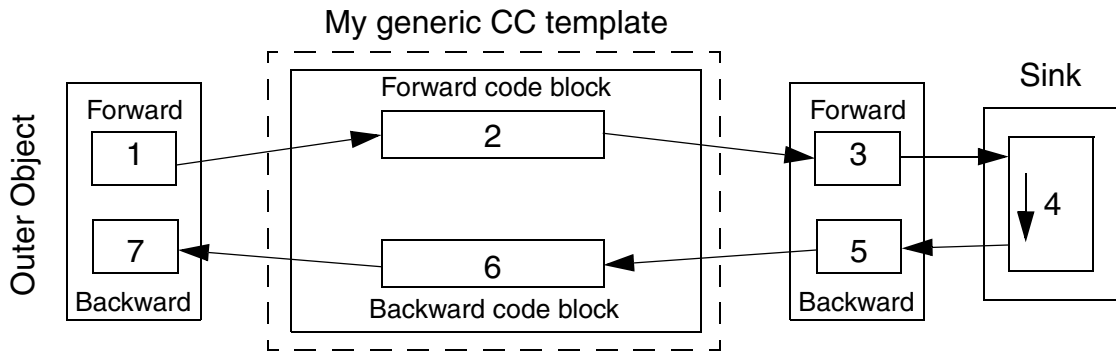

Figure 47. My generic CC template object has a generic solution which simply passes information forward to the next forward object
A generic solution continues to passing the information to the next forward block, which means that it relies on a Sink object (AO) at the end of the chain. A Sink Object (AO) is the most common to use at the end of the chain in a generic solution. It is the Sink that will change the data flow direction to go backwards (Figure 47).
As you can see in Figure 47 the Sink object contains both forward code and backward code in one code block. The backward direction sort order starts at the end of the Sink's common code block. The Sink is writing to the backward block, in this case No (5) in Figure 47.